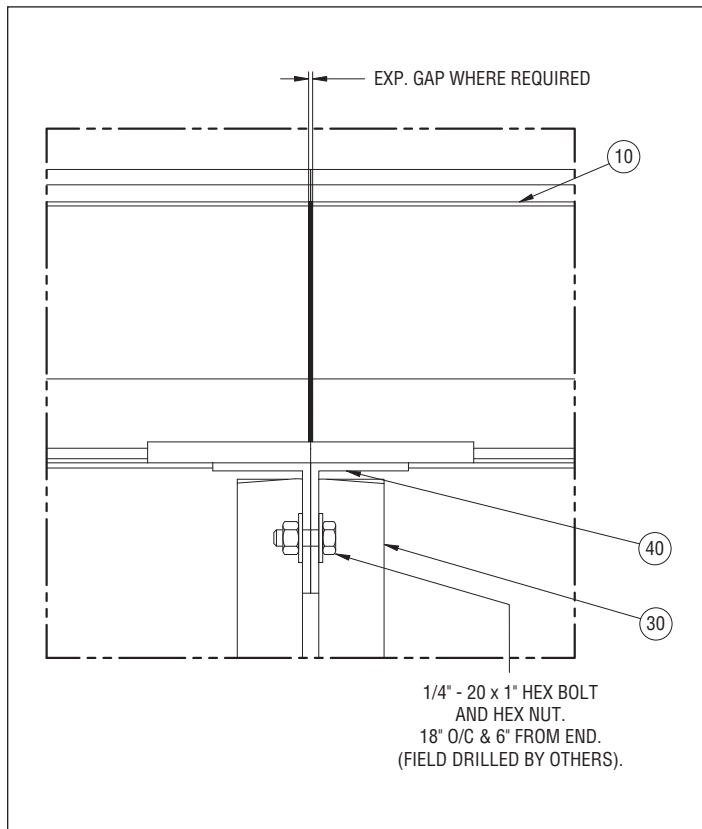
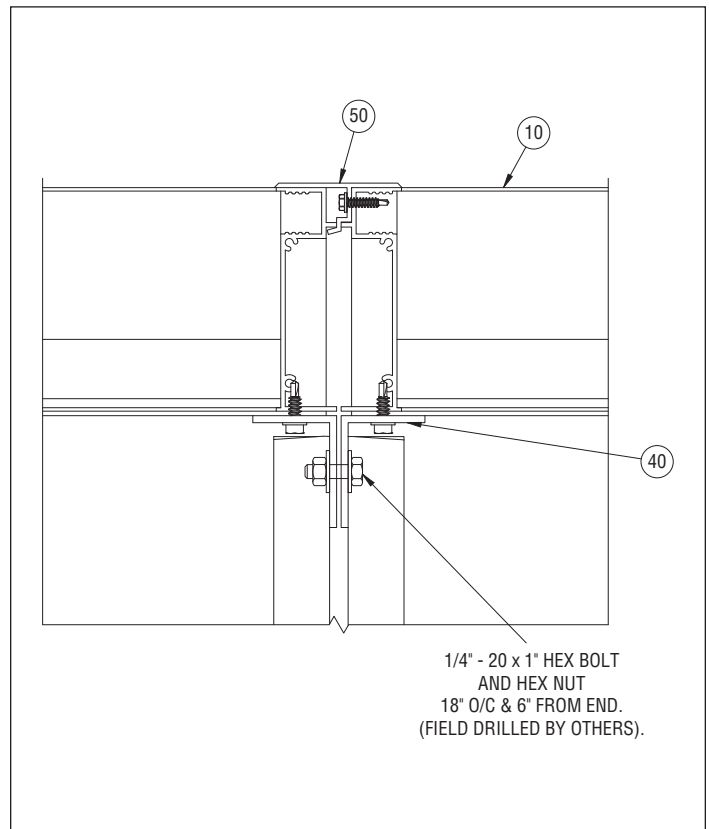

Fig. 2.1M
Fig. 2.1B
4. Reference **Fig. 2.1M** for 1600PHM section connection and **Fig. 2.1B** for 1600PHB connection.
5. Assemble the long sides of the penthouse. Reference **Fig. 2.1M** for 1600PHM section connection and **Fig. 2.1B** for 1600PHB connection.